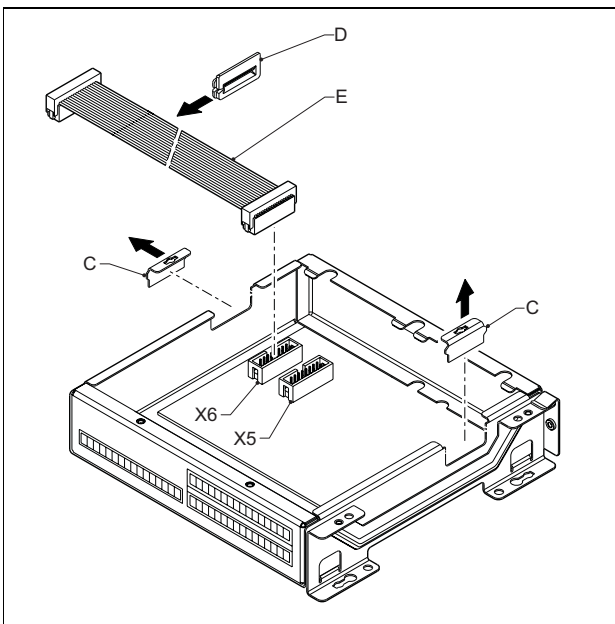
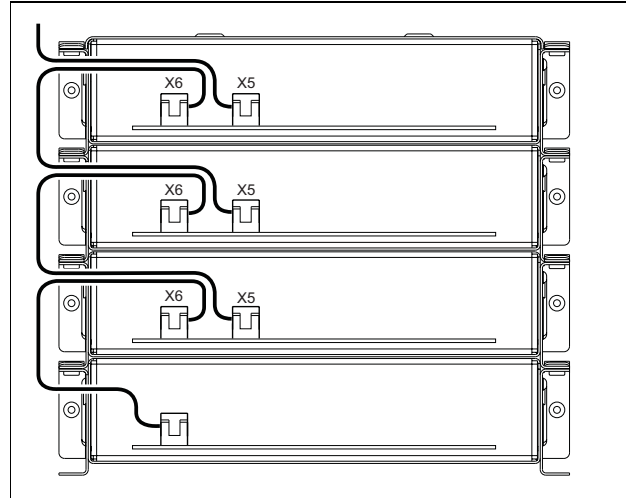
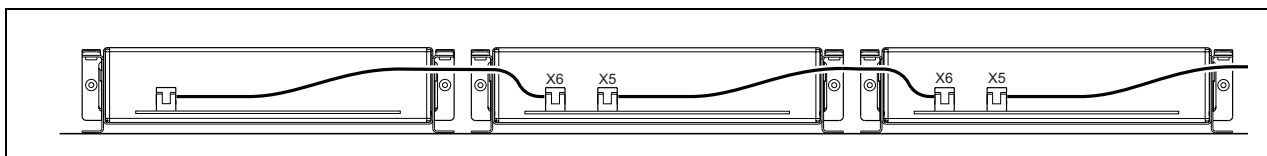

figure 3.9: Knock-out removal
figure 3.10: Flatcable guidance (stacked modules)
figure 3.12: Flatcable guidance (modules next to each other)
- 2 Remove the cable entry knock-outs (C) for the grommets in the modules (see figure 3.9). This depends on the way you want to position the modules (stacked, see figure 3.10 or next to each other, see figure 3.12).
- 3 Put the grommet (D) on the flatcables (E).
- 5 Guide the flatcable to the other module (see figure 3.10 or figure 3.12) and insert the grommet into the knock-out hole.
When the modules are not stacked, but mounted next to each other, put the top covers back on all modules (see figure 3.12).